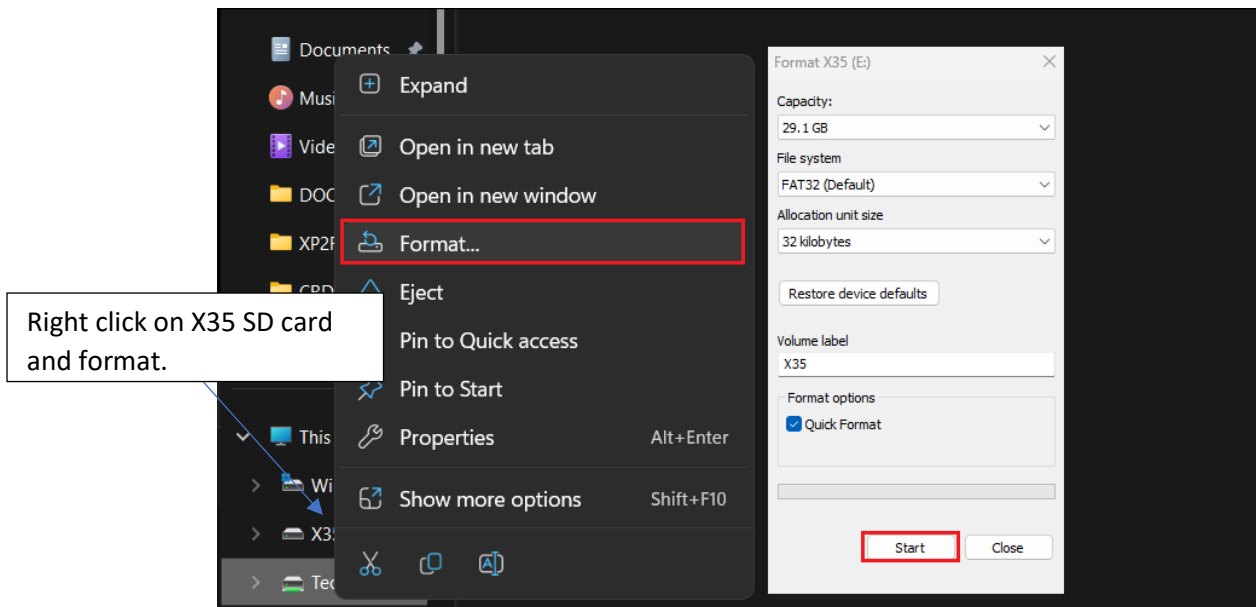

Figure 4.46
1. Disconnect SD card from X35 and insert into PC and start by having a complete format to SD card as shown in **FIGURE 4.46**.